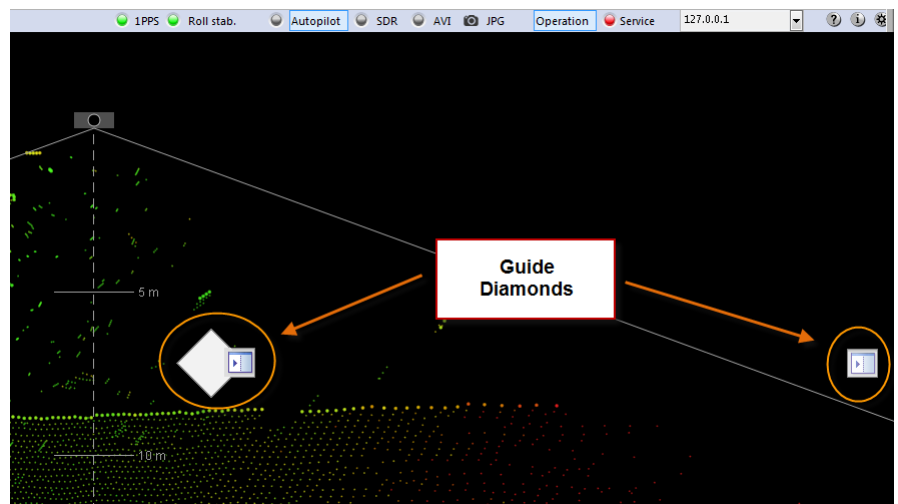

Figure 3-3 Guide diamonds
3. The pane can easily be docked at the original right side of the display, as guide diamonds are visible when the window is dragged. See Figure 3-3. The guide diamonds help dock floating panes to their original – default – location on the display. The settings panes are docked on the right side of the display. The bottom panes are docked at the bottom of the display.